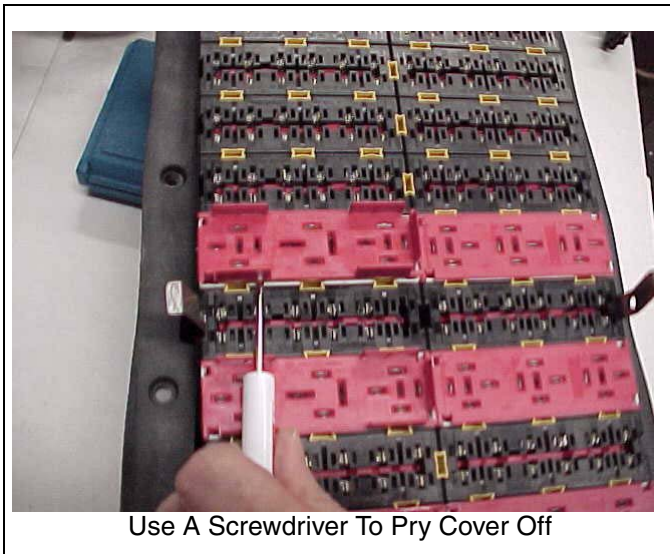

Figure 15-17
1. With a small screwdriver, pry the red cover (if applicable) off the defective module. See Figure 15-17.